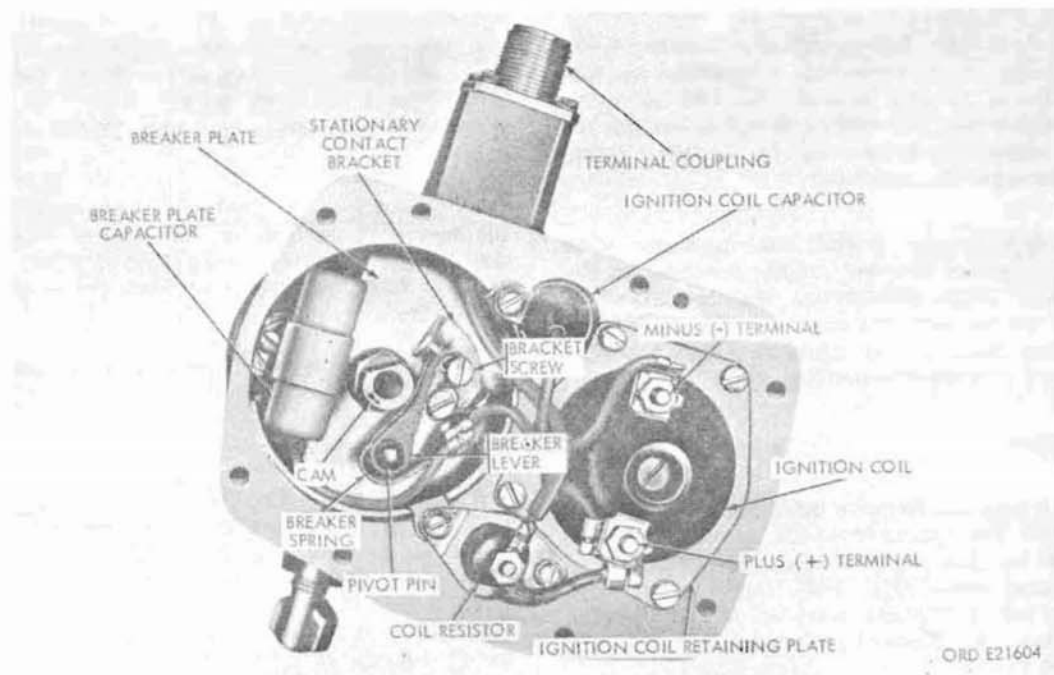
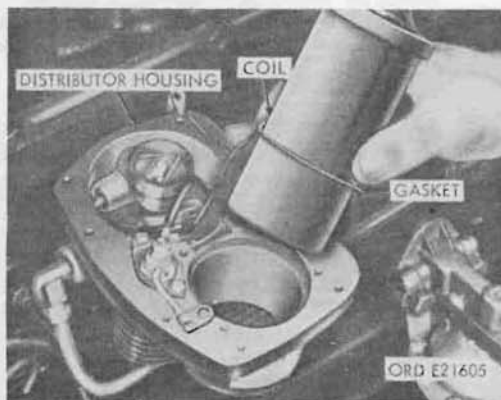

Figure 142. Distributor - interior components
Figure 143. Replacing ignition coil
a. Cleaning. Remove the distributor cover and rotor. Clean breaker points on the breaker lever (fig. 142) and the stationary contact bracket, using a contact-point dresser. If points are badly pitted or burned, replace points (b below).
b. Removal. Remove distributor cover and rotor. Remove the bracket screw securing the stationary contact bracket (fig. 142) to the
- (2) **Adjust breaker point gap.** With the ignition switch in the OFF position, turn the engine in small stages by closing the starting switch momentarily until the engine stops with a high point of the cam holding the breaker lever at the maximum gap. Check the gap with a 0.022-inch feeler gage. To adjust the gap, loosen the bracket screw near the end of the stationary contact bracket and turn the adjusting screw to obtain the correct opening of 0.022 of an inch. Tighten the bracket screw. Install the rotor and the cover.
a. Removal. Disconnect the breaker plate capacitor wire from the connection on the stationary contact bracket (fig. 142). Remove the screw and lockwasher securing the capacitor mounting bracket to the breaker plate, and remove the capacitor.
b. Installation. Install the capacitor with the mounting bracket in the position on the breaker plate and secure with the fillister-head screw and lockwasher. Connect the capacitor wire to the connection on the stationary contact bracket (fig. 142).
a. Removal. Remove distributor cover. Disconnect two cables from the ignition coil. Remove the four screws from the ignition coil retaining plate (fig. 142). Remove the plate from the distributor housing, and lift out the ignition coil. Discard gasket.
b. Installation. Place the new ignition coil gasket in the recess in the distributor housing, and install the ignition coil in the housing (fig. 143). Note that the coil must be placed with the plus (+) terminal near the coil resistor (fig. 142). Install the clamp plate and secure with four screws. Connect the coil resistor cable and the coil capacitor cable to the plus (+) terminal on the coil. Connect the cable from the stationary contact bracket to the minus (-) terminal. Install the distributor cover.